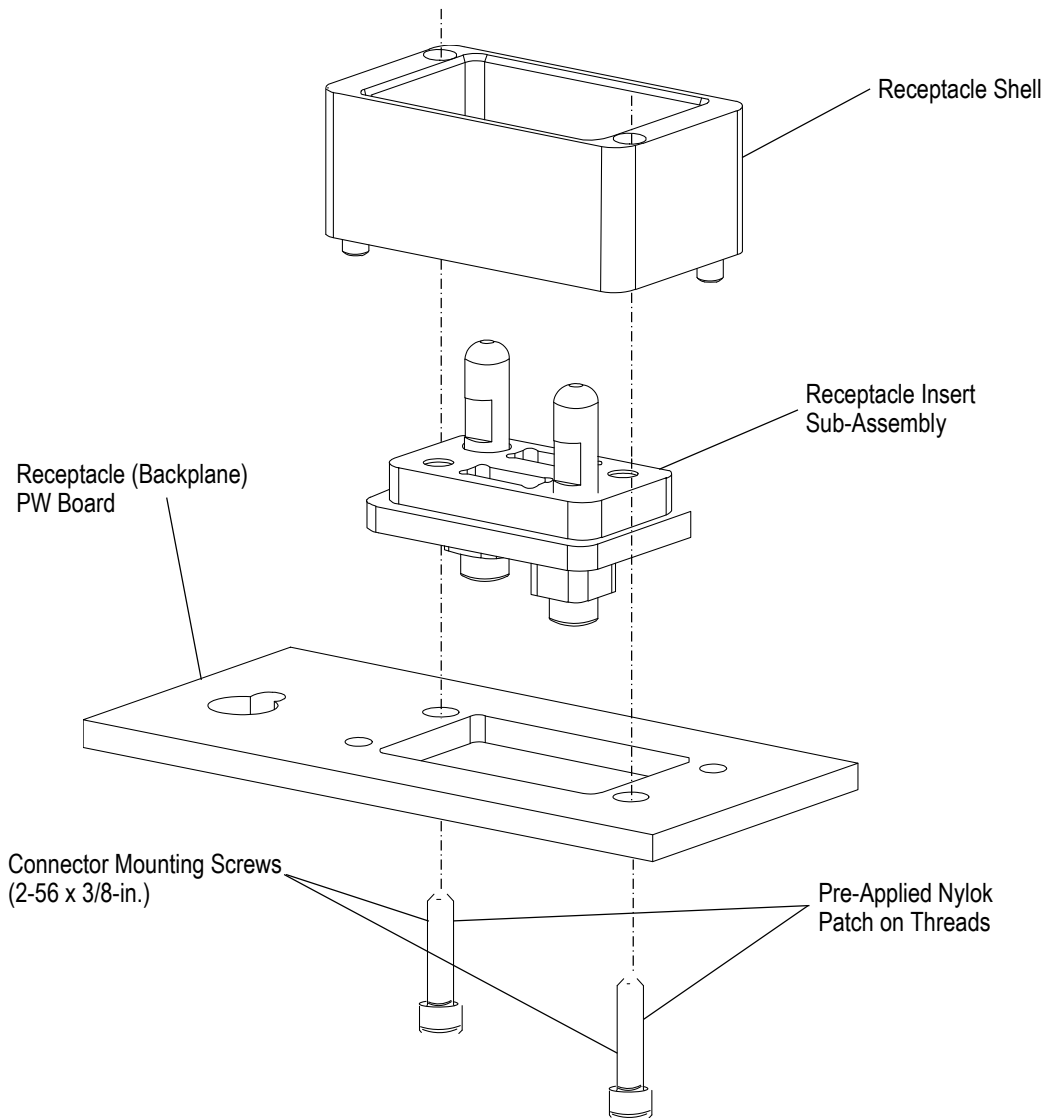

Figure 11
C. Receptacle (Backplane) Connector (Figure 11)
Orient the insert sub-assembly and shell to the backplane PWB as shown in Figure 11. When placing them on the PWB, make sure the plug shell alignment posts are started into the corresponding holes before securing the plug shell to the board. Once the shell is seated on the module PWB, from the opposite side of the board, thread the size 2 machine screws with pre-applied Nylok patch through the respective PWB holes into the shell. The screws shall be installed with 0.23 - 0.34 N•m [2 - 3 in-lb] torque. Check that the insert sub-assembly floats freely between the plug shell and the PWB, and does not bind within the PWB cutout opening.